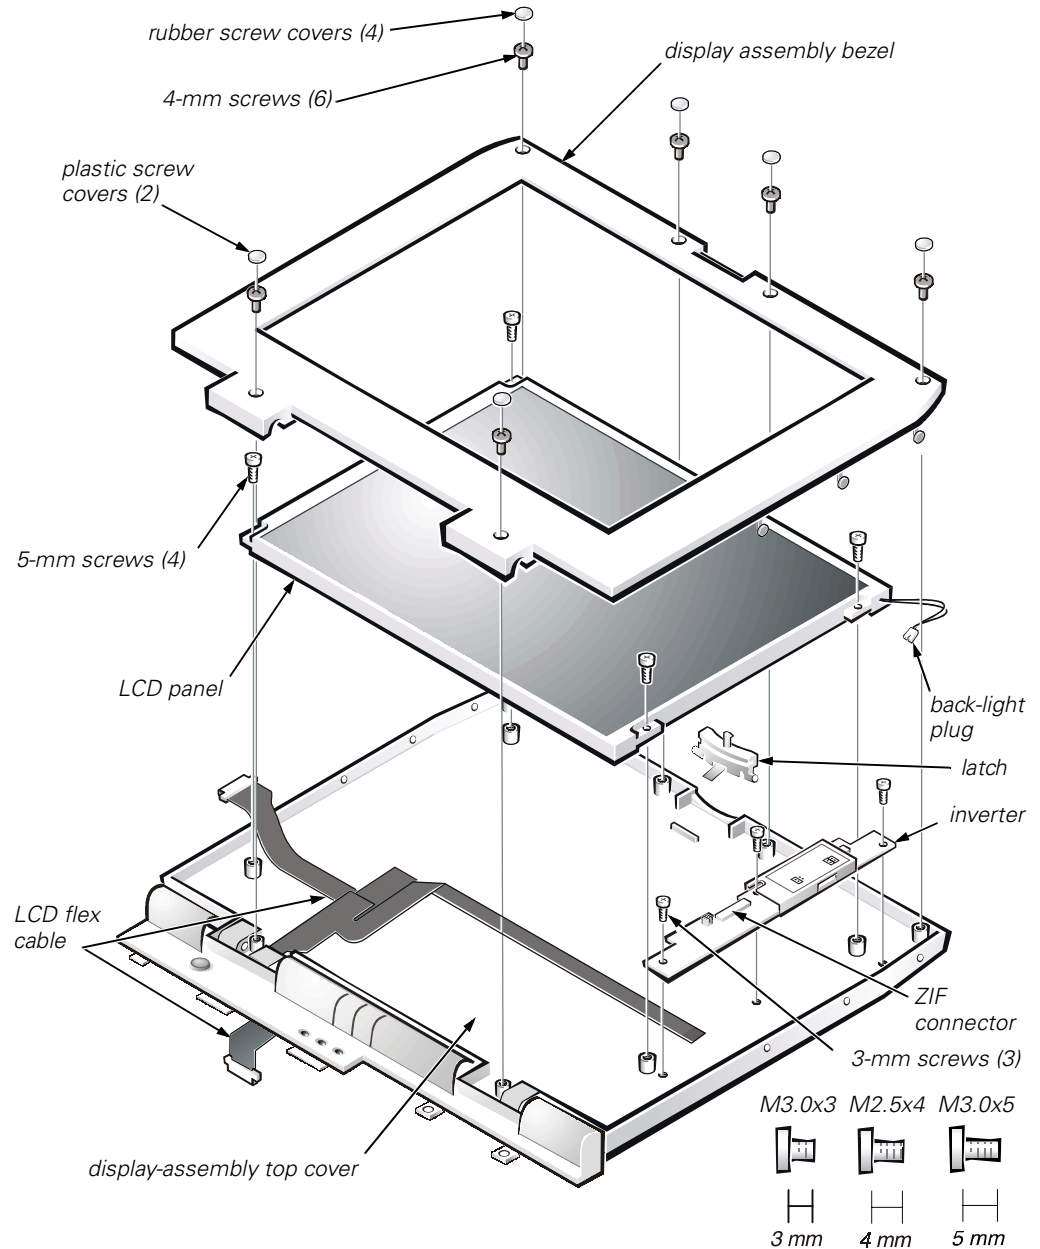

Figure 16. 12.1-Inch Display Assembly
5. Remove the display assembly bezel latch by unsnapping the latch and captive spring from the inside of the display assembly top-cover assembly (see Figure 14 and Figure 16).